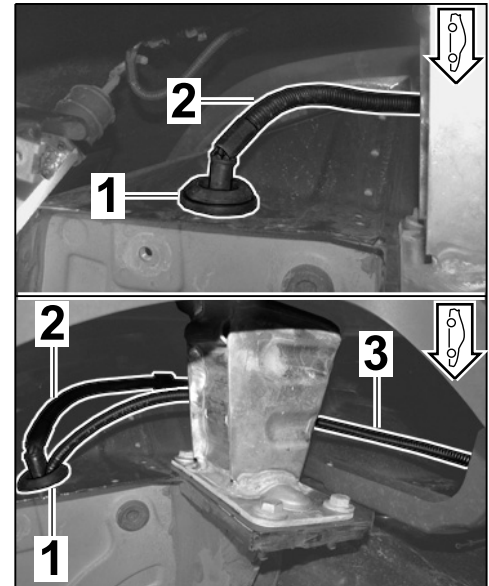

Figure 26
3.2.2 Guide line 1.0² BK/BN with cable shoe A6 and line 1.0² WH with socket contact (wire harness for sport exhaust system, ⇒ *Figure 26-3-*) through the rubber sleeve into the luggage compartment (⇒ *Figure 26*).